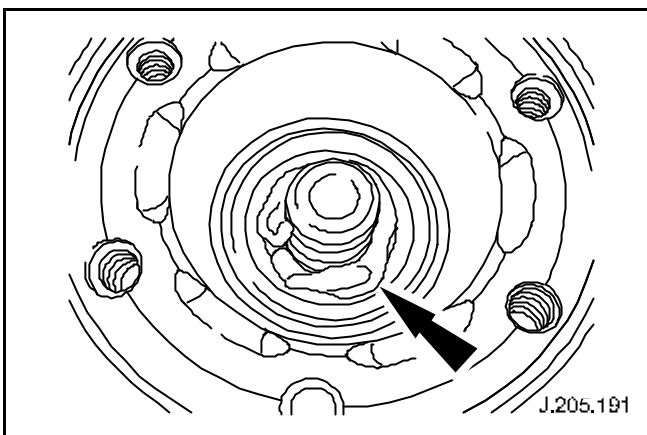

Fig. 2
- 9 Apply sealer (C2S 12099) to area of transfer box rear output flange where securing nut seats (see Fig. 2).